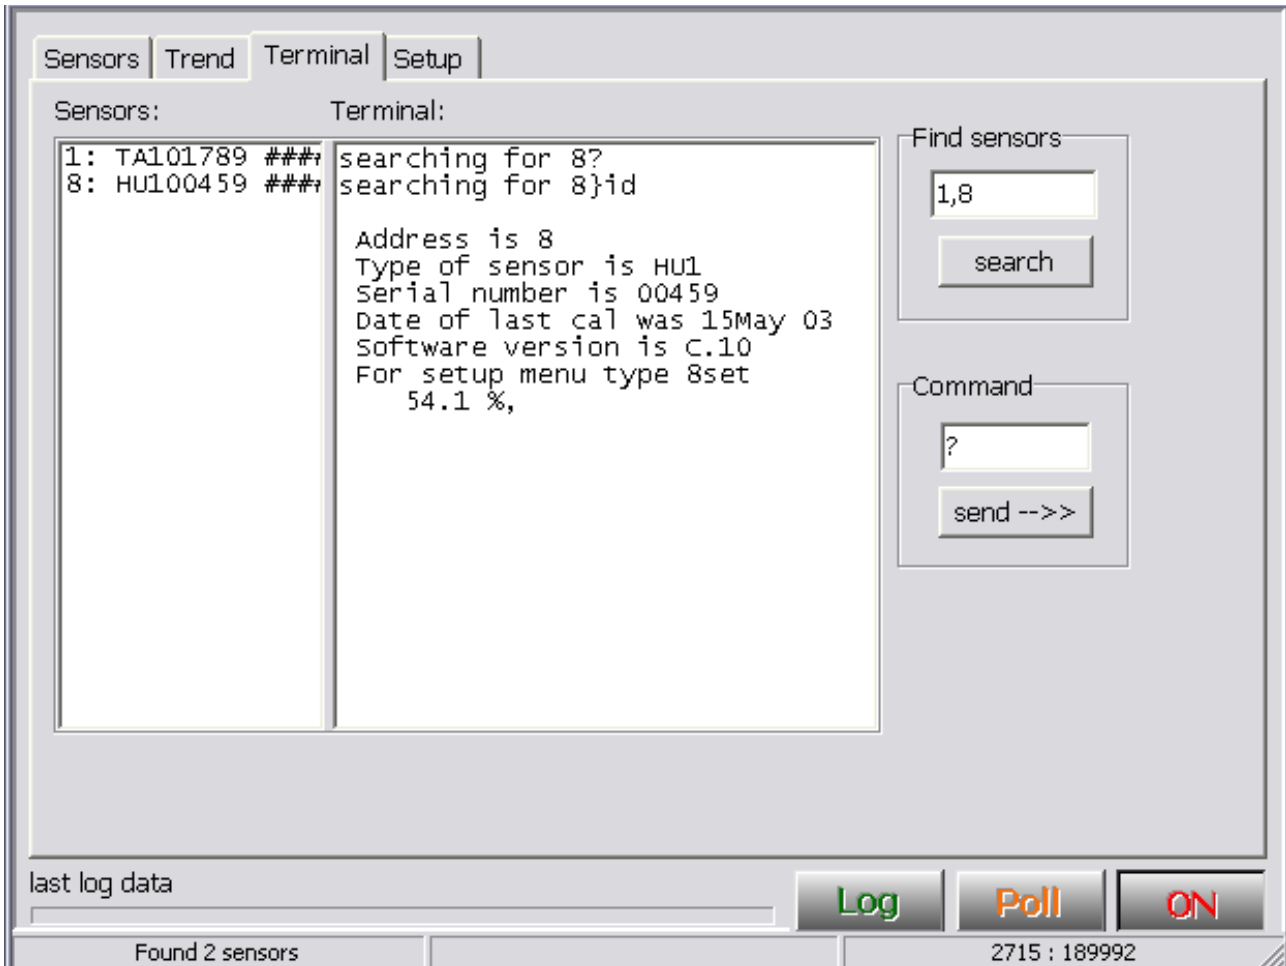

Figure 9. Terminal Panel: find sensors edit box.
5. Enter the detected sensor addresses or search range into the **Find sensors** edit box and click the **search** button (see Figure 9). The sensor addresses can be entered individually, separated by a comma or as a range separated by a hyphen, e.g. 1,2,U-Z.